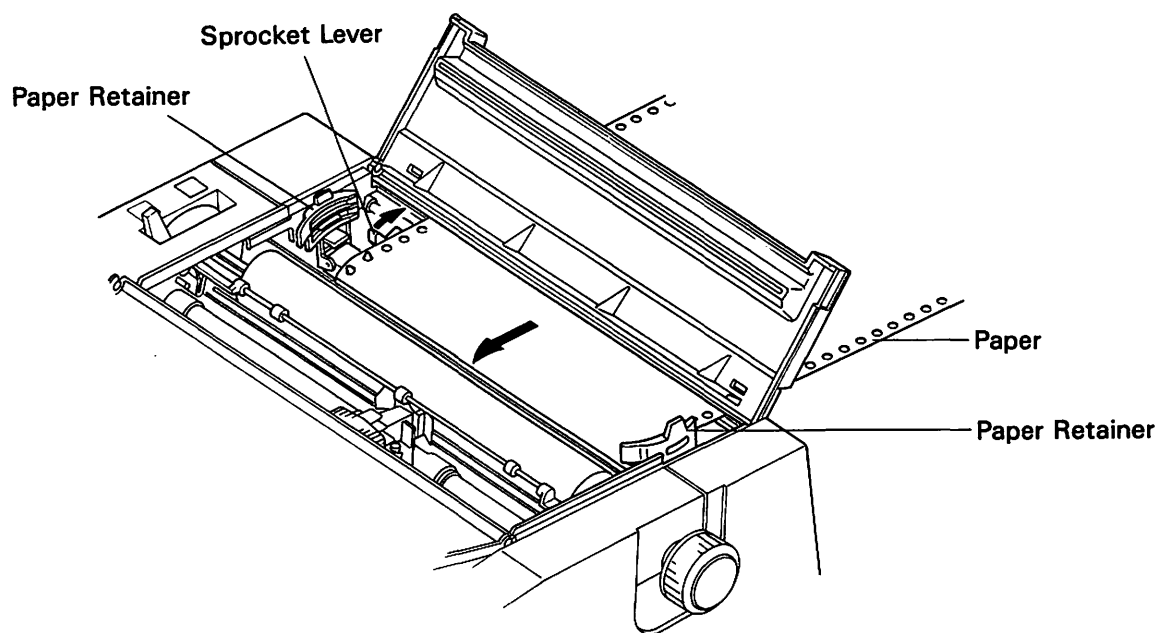

Fig. 2-6
- 5) Fit the pin holes on the paper onto the right and left sprocket tractor pins. If the width of the paper does not match the distance between the sprocket tractors, push back the right or left sprocket lever to release the sprocket tractor(s) and adjust the position of the tractor(s) to match the width of the paper. Then pull the sprocket lever(s) forward to lock the position of the sprocket tractor(s). (See Fig. 2-6)